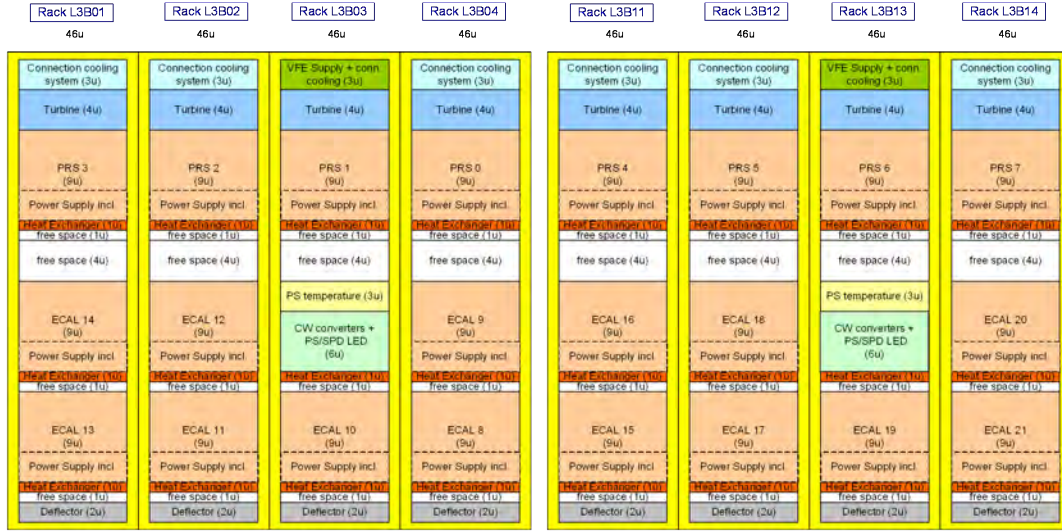

Figure 27: The PS/SPD crates in their racks on the ECAL platform for C-side (left) and A-side (right) [60].
- the Front-End (FE) electronics which is located in crates and racks over ECAL (see Fig. 27), on the ECAL platform [60,61].
**Front-end electronics** This is most certainly the easiest part to dismount. The eight SPD/PS crates (Fig. 28), one per rack (see Fig. 27) [56,60,61], have to be emptied from their FEB and removed (actually the crates and the backplanes can be used as spares of the XCAL and could be stored in the current racks). This corresponds to 100 SPD/PS FEB and 1800 (PS) + 116 (SPD) signal cables. The SPD control boards (16, two per crate) and CROC (eight boards, one per crate) should be removed with their cables (144 for the SPD CB and SPECS and optical fibres for the CROC). The present trigger cables (between racks) at the back of the crates have to be removed as well.
**Low voltage system** A dedicated MARATON (0M22.0003 type) located in the upper part of rack L3B03 C-side and L3B13 A-side (Fig. 27) is used to provide low voltage to PS and SPD regulator boards which are housed in PS and SPD VFE boxes allowing to power the VFE boards. Outlets of the MARATON channels are connected to patch panels used to split low voltage power into cables. The PS patch panel (Fig. 29 left) is located on the rear of the MARATON on the top of the rack and serves 50 cables connected at the other end to 50 PS regulator boards with one